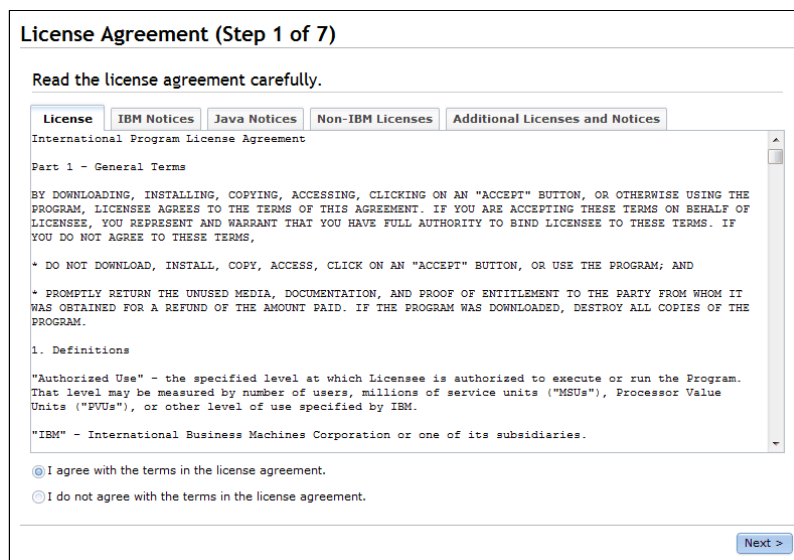

Figure 4-13 Setup wizard - License Agreement
2. You have to Read and accept the license agreement to be able to continue as shown in Figure 4-13. Click Next after accepting the licence agreement.